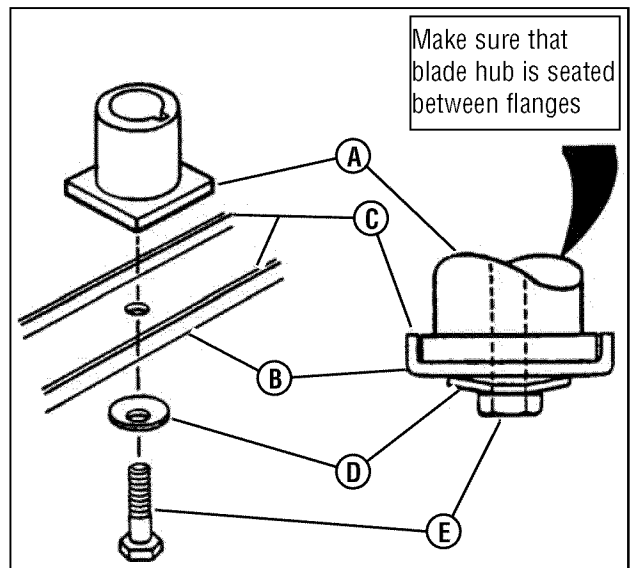

Figure 22: Removing the mower blade
3. Remove the blade (**B, Figure 22**).
- Reinstall blade (**B**, **Figure 22**). Note the correct assembly order: